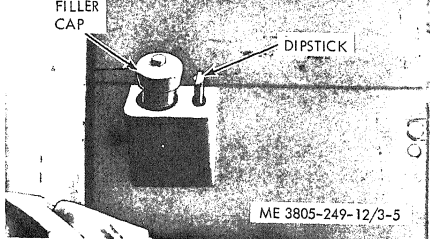

Figure 3-5. Transmission service.
a. To check the oil level, start the engine and remove the dipstick (fig. 3-5). Level should be at the FULL mark on the gage.